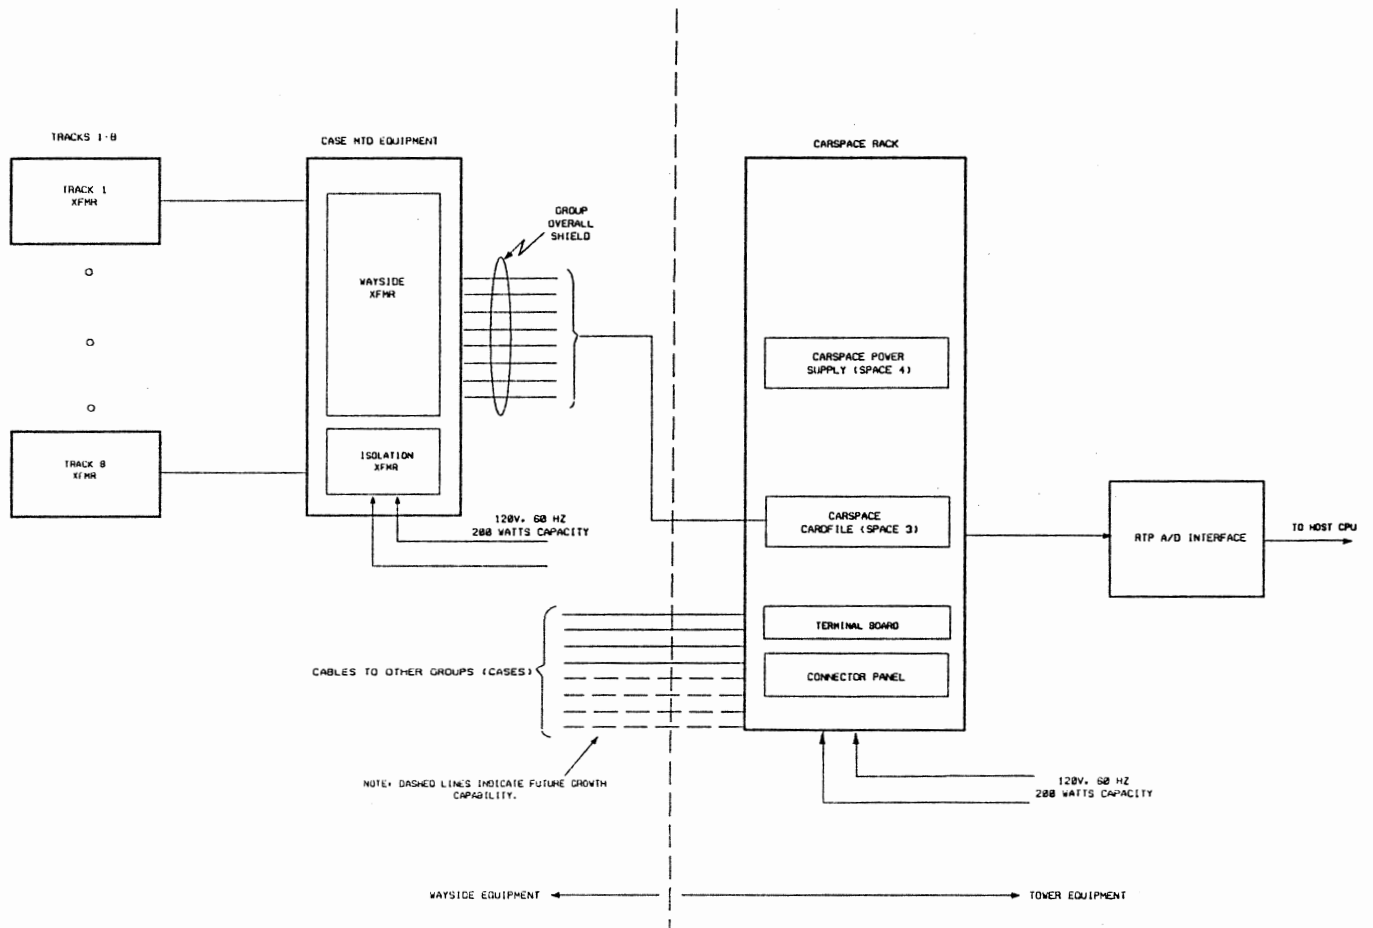

Figure 1-1: Simplified Equipment Diagram of Carspace System
1.2 GENERAL DESCRIPTION (Refer to Figure 1-1 for the simplified equipment diagram)